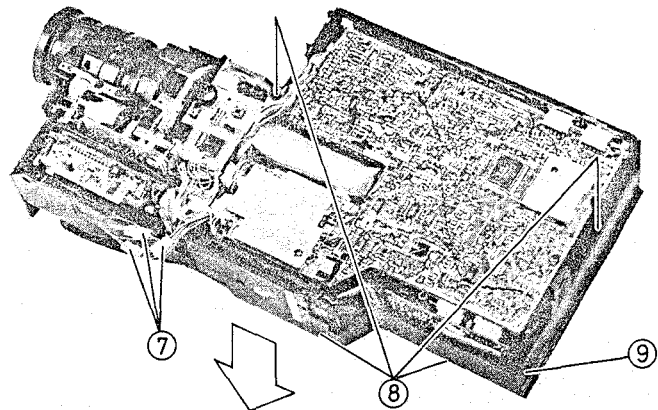

Fig. 2-8 Right Case Removal
7. Disconnect three (3) connectors (CN506, CN520, CN621). (See Fig. 2-8)
8. Remove four (4) screws holding the right case.
9. Release one (1) tab.